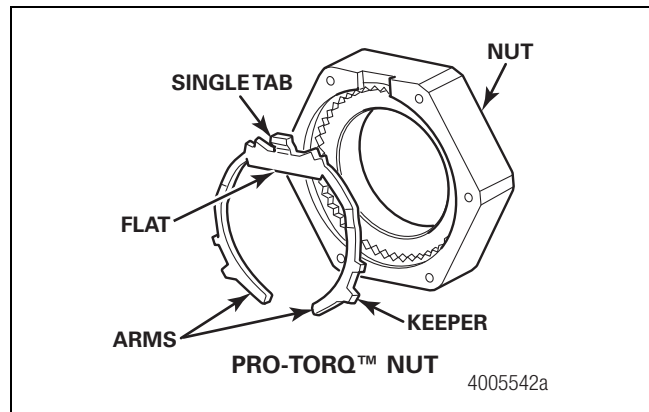

Figure 13.26
5. Remove the keeper from the PRO-TORQ™ nut. Use a screwdriver to pry out the keeper arm from the groove on each side of the nut until the keeper is released. Meritor recommends replacing the keeper with a new one each time the PRO-TORQ™ nut is removed to maintain the integrity of the locking mechanism. Use a 3.5-inch (89 mm) socket wrench to remove the PRO-TORQ™ nut. Figure 13.26.